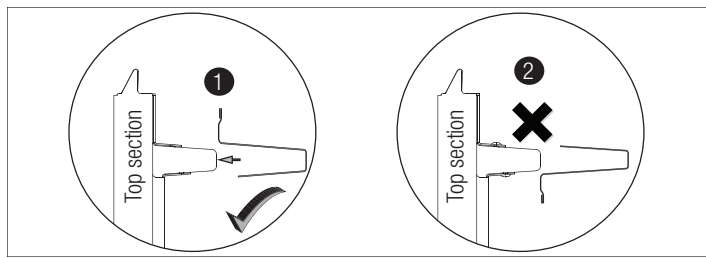

Figure 19, Left Side Shown
**IMPORTANT:** When securing the asymmetrical strut to the top section, it is recommended not to install any fasteners into the short leg of the asymmetrical strut. See Figure 19 for correct orientation.